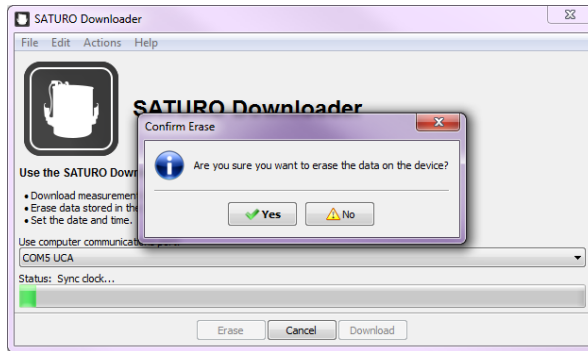

Figure 12 Confirm Erase prompt
- After the download is complete, a prompt will ask if the data stored on the device should be erased (Figure 12).